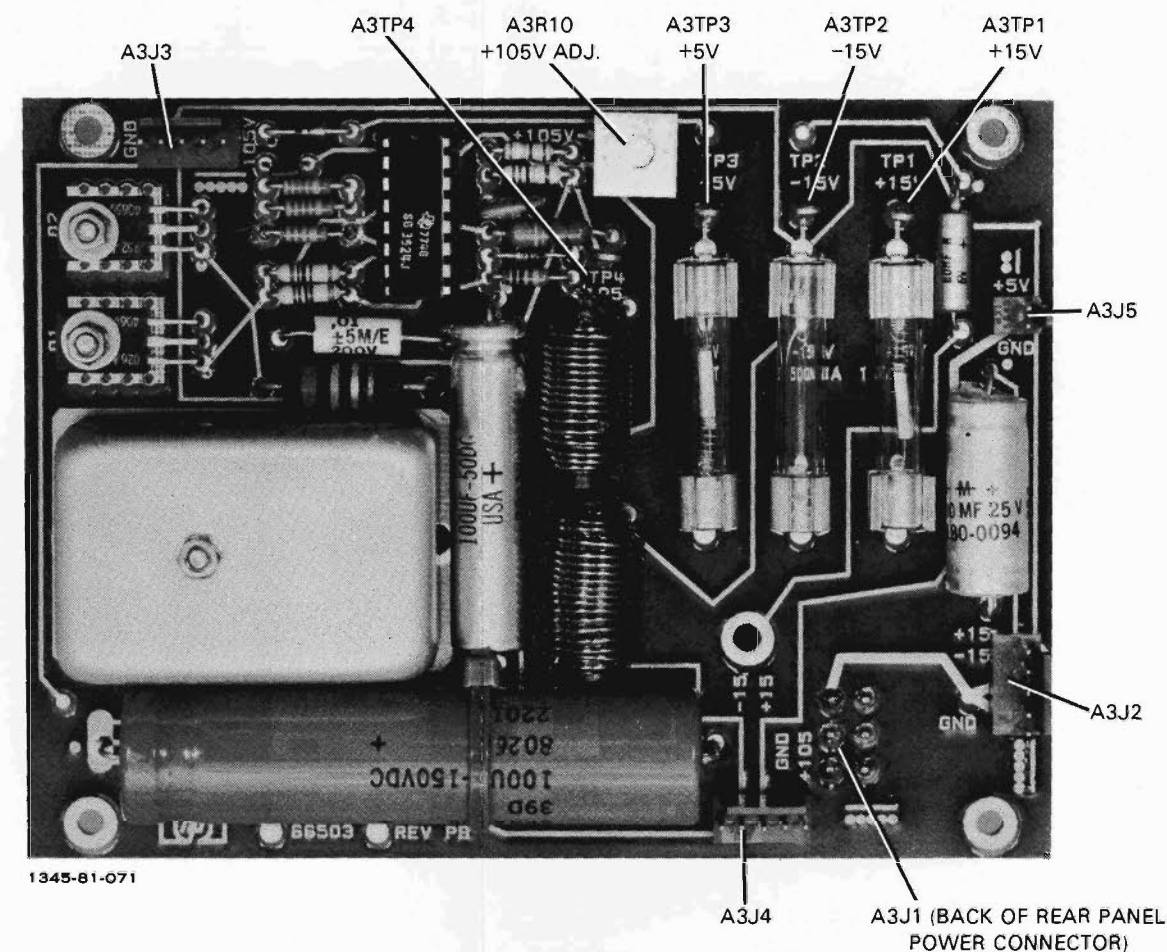
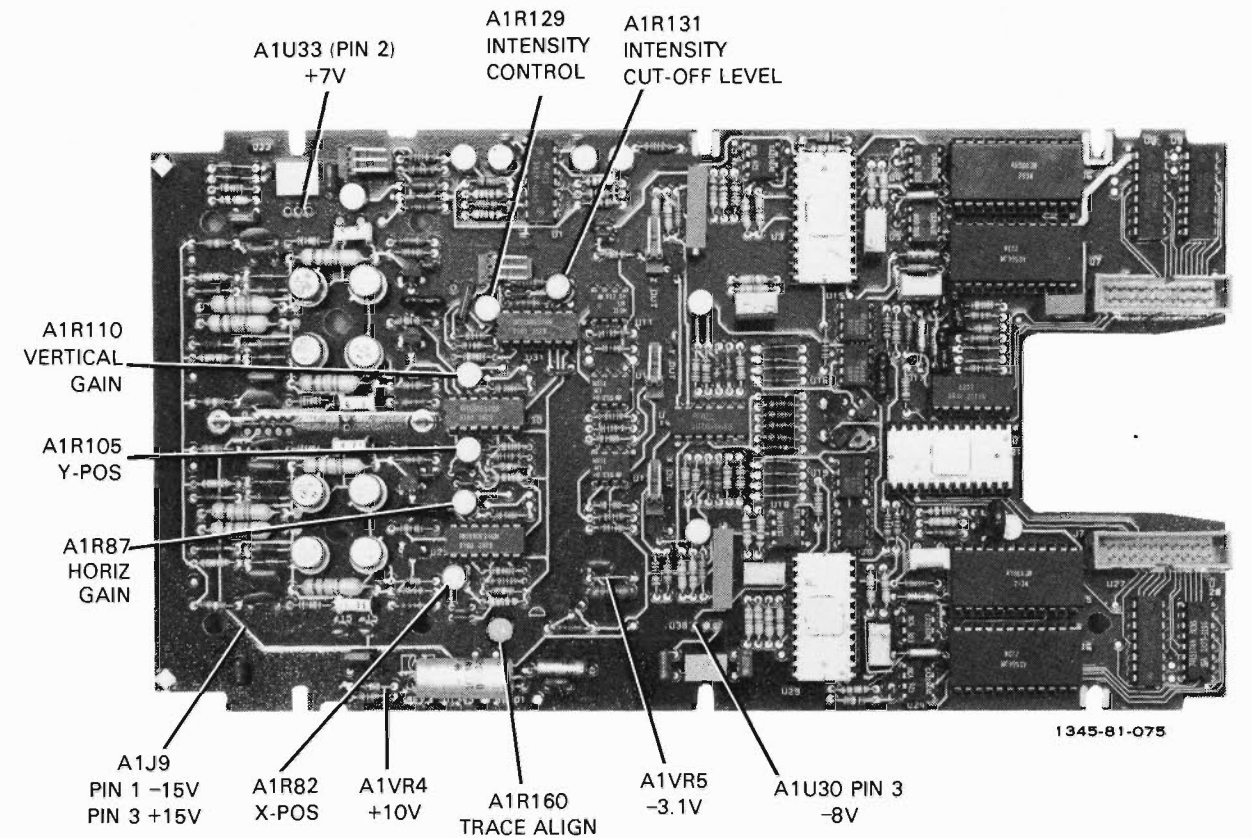

Figure 5-2. Low Voltage Power Supply Adjustment Locations
Figure 5-5. Primary Test Pattern Adjustment Locations
the 105V supply and the high voltage supply are shown in figures 5-2 and 5-3. Adjustment locations for pattern, stroke generator, and stroke intensity and focus adjustments are shown in figures 5-5, 5-8, and 5-11.
a. If connected, disconnect power plugs to the Stroke Generator Board (A1J8), Vector Processor Board (A2J5), and High Voltage Power Supply Board (A4J1) (see figure 5-2).